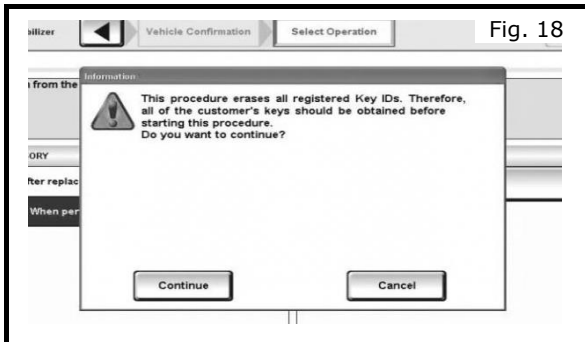

Fig. 18
- a) Follow the CONSULT III plus prompts as shown in Fig. 18.